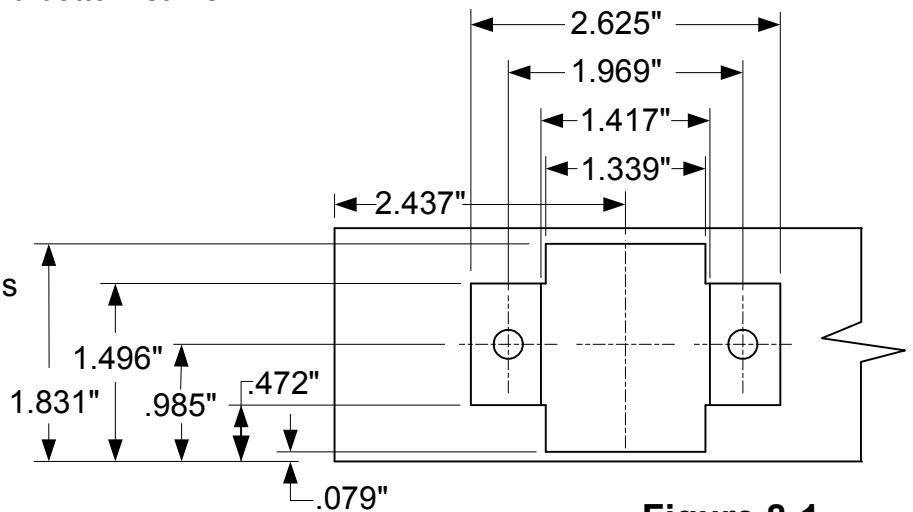

Figure 8-1
- a. Cut out a square on the frame for the top strike (figure 8-1).